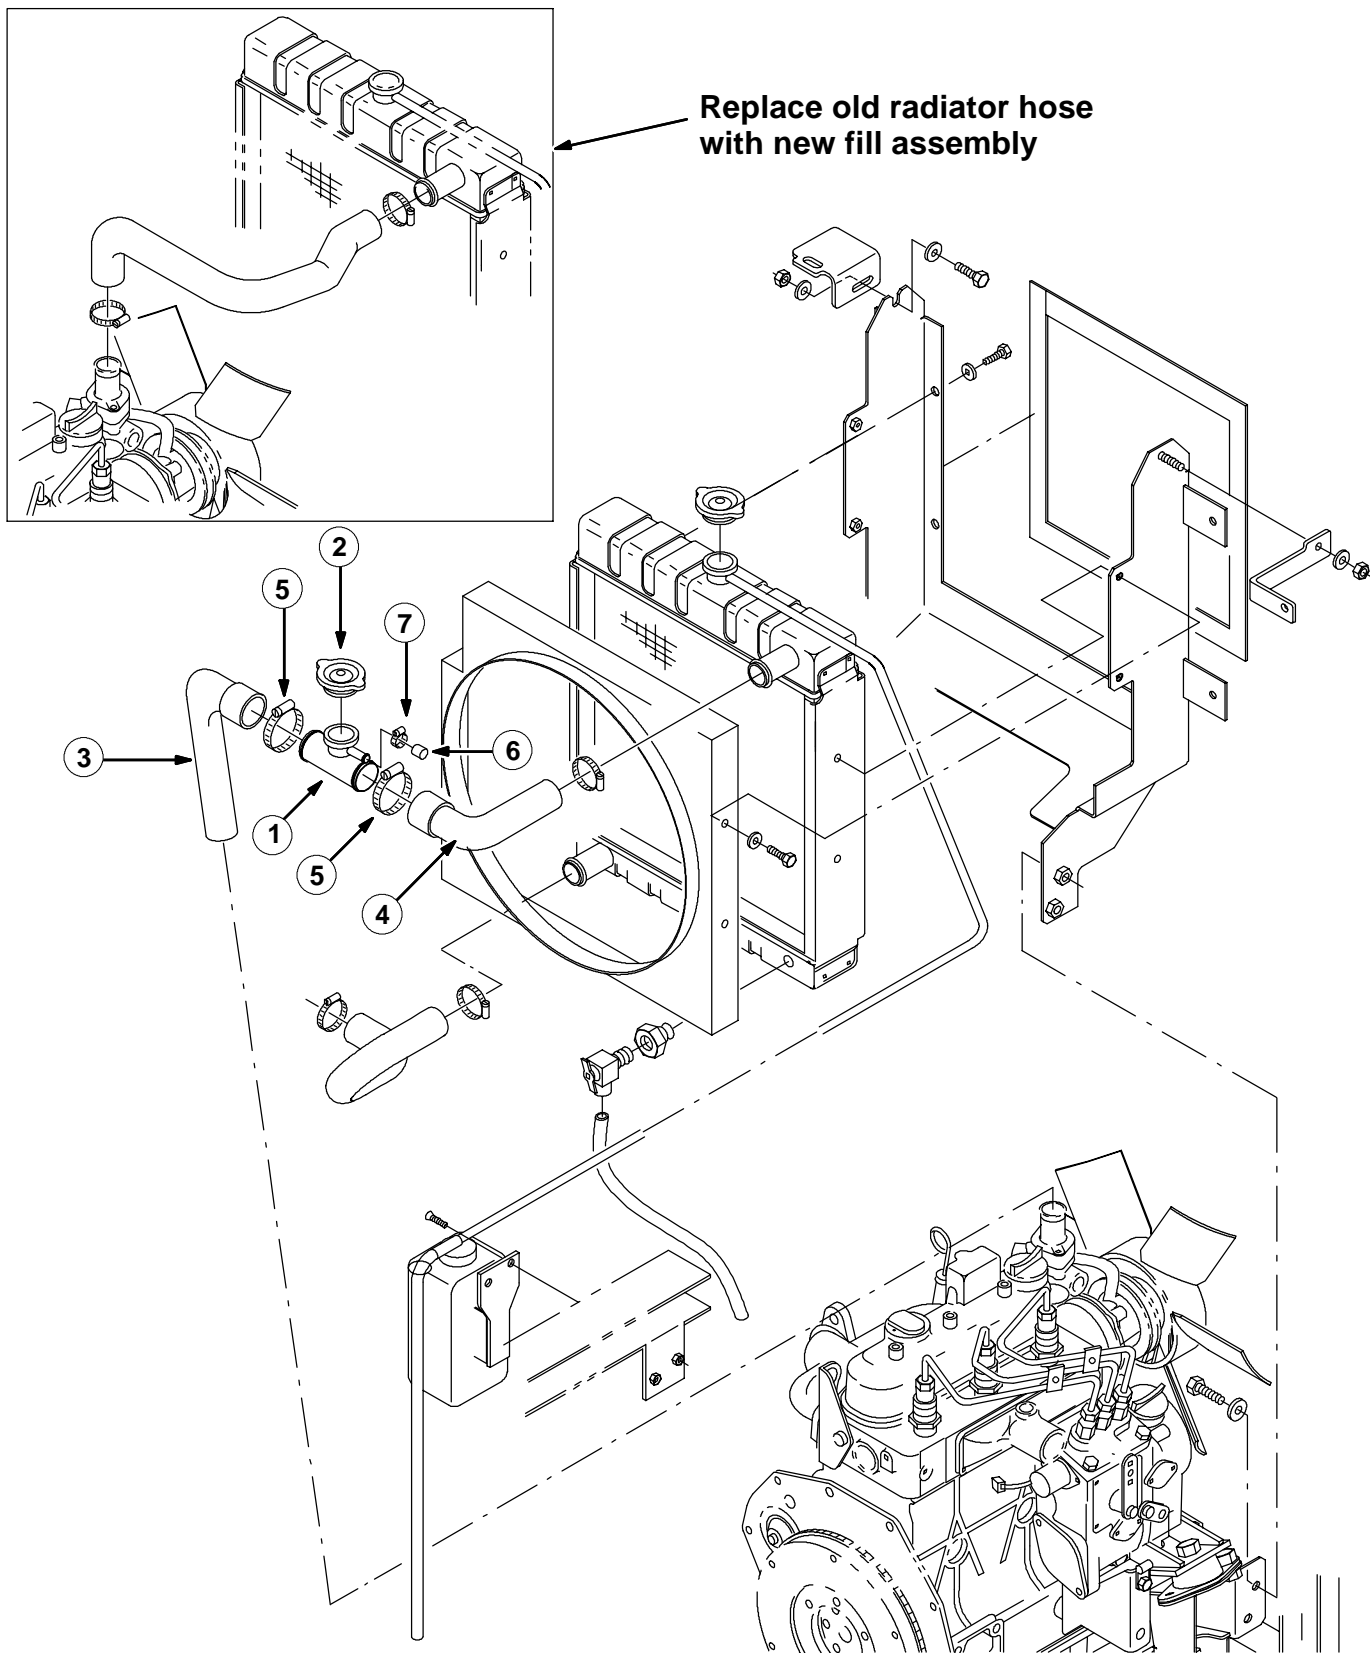

FIG. 1 - REMOTE FILL RADIATOR KIT INSTALLATION
(Refer to FIG. 1)
1. Disconnect and remove the top radiator hose and clamps from the engine and radiator. Set the hose clamps aside. (Refer to FIG. 1)
2. Assemble the ends of the new upper hose assembly (3 and 4) to the radiator fill tube (1) with the 2 in. hose clamps (5). (Refer to FIG. 1)
3. Mount the vinyl cap (6) to the radiator fill tube (1) with the small hose clamp (7). (Refer to FIG. 1)
4. Mount the ends of the new upper hose assembly to the engine and radiator with the set aside hose clamps. Place the radiator cap (2) onto the new fill tube (1). (Refer to FIG. 1)